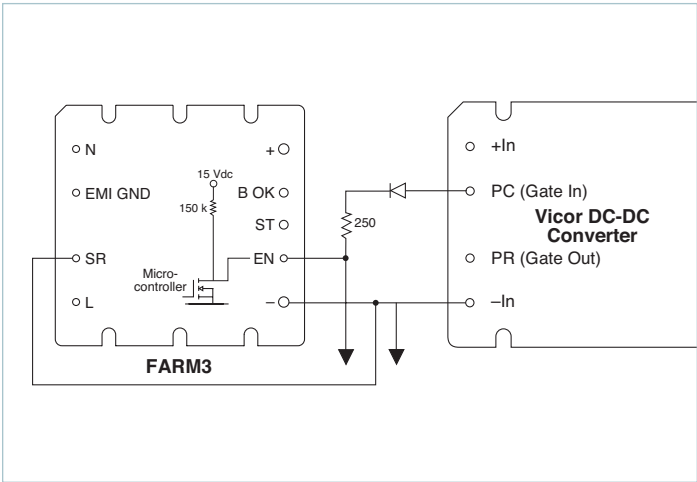

Figure 11 — Enable (EN) function
Enable (EN) Pin: The Enable pin must be connected to the PC or GATE-IN pin of all converter modules to disable the converters during power-up. Otherwise, the converters would attempt to start while the hold-up capacitors are being charged through the current limiting thermistor, preventing the bus voltage from reaching the thermistor bypass threshold, thus disabling the power supply. The Enable output (the drain of an N channel MOSFET) is internally pulled up to 15V through a 150kΩ resistor. (See Figure 11)